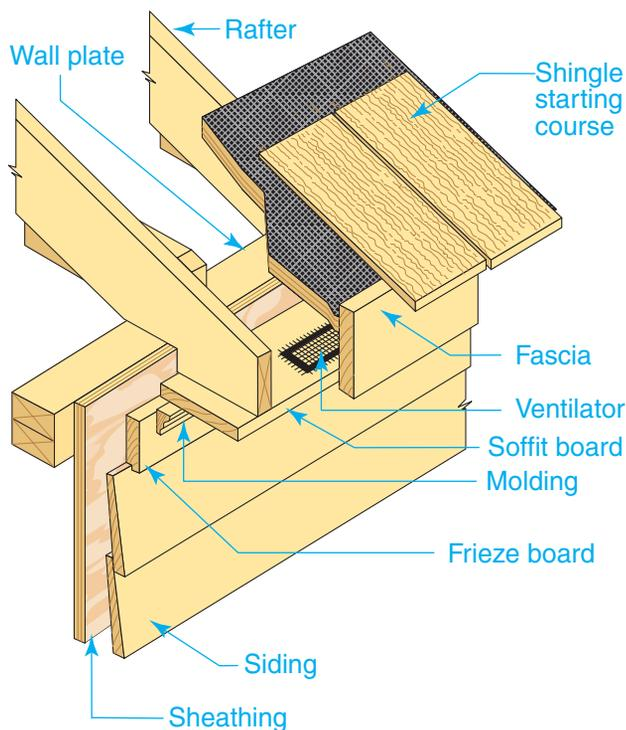

Figure 19-34 Basic Cornice Construction
A **cornice** consists of a fascia, a soffit, and various types of molding, as shown in **Figure 19-34**. The **fascia** is a board that is nailed to the ends of the rafter tails. It protects the end grain of the rafters and serves as a mounting surface for gutters. Sometimes a sub-fascia made of 2× lumber will be nailed to the ends of the rafters to provide extra strength in this area. It is sometimes called a structural fascia. The sub-fascia is always covered later by a finished fascia, which is high-quality 1× stock. In some cases a finished fascia can be nailed directly
Step 6 If the soffit is narrow, as in Figure 19-34 on page 552, the connection between the fascia and the soffit may be a butt joint. If the soffit is wide, as in Figure 19-38D, one edge of the soffit material can fit into a groove cut in the back of the fascia. That method is described in the following steps.